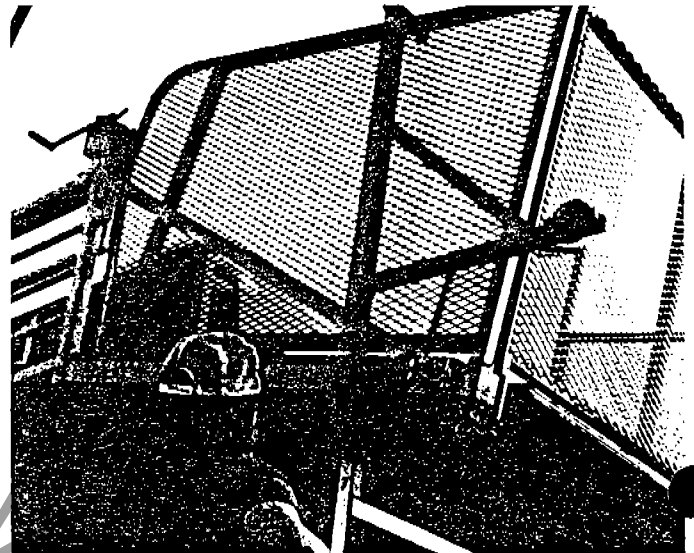

Fig. 22
(2) Working from the platform, bolt the side support brackets to the top rails of the left and right side fence sections.
(3) *Note:* The side support bracket with the pulley must be installed on the winch side. (Fig. 22)